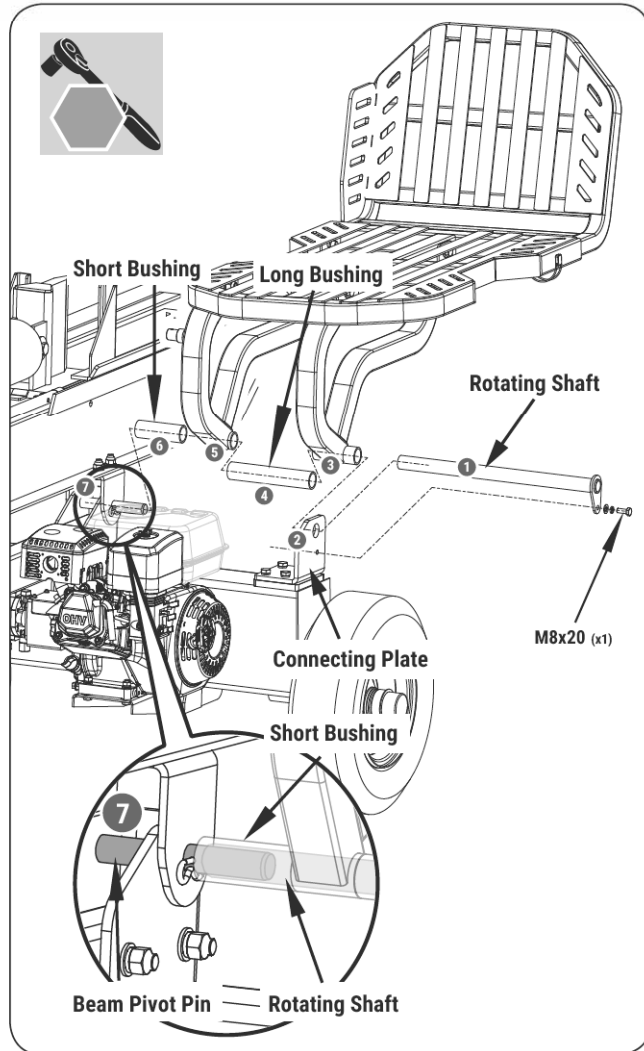

Figure 10
1. Pass the rotating shaft through the connecting plate, right support leg, long bushing, left support leg, and short bushing in sequence, and finally, wrap it outside the beam pivot pin, then fix it on the connecting plate with M8x20 bolts and washers. (See **Figure 10**.)